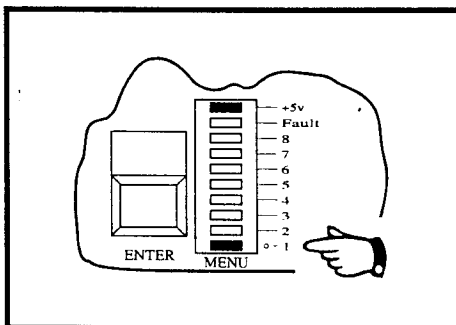

Figure 3-6
- (c) Press the blue **FUNCTION** key. The **Menu** display should cease scrolling and the segment labelled **1** should illuminate. This segment identifies the ZERO menu function. See Figure 3-6.
- (b) Press the blue **FUNCTION** key **ONCE**. The **Menu** display should cease scrolling and the segment labelled **1** should illuminate. This segment identifies the ZERO menu function. See Figure 3-6.